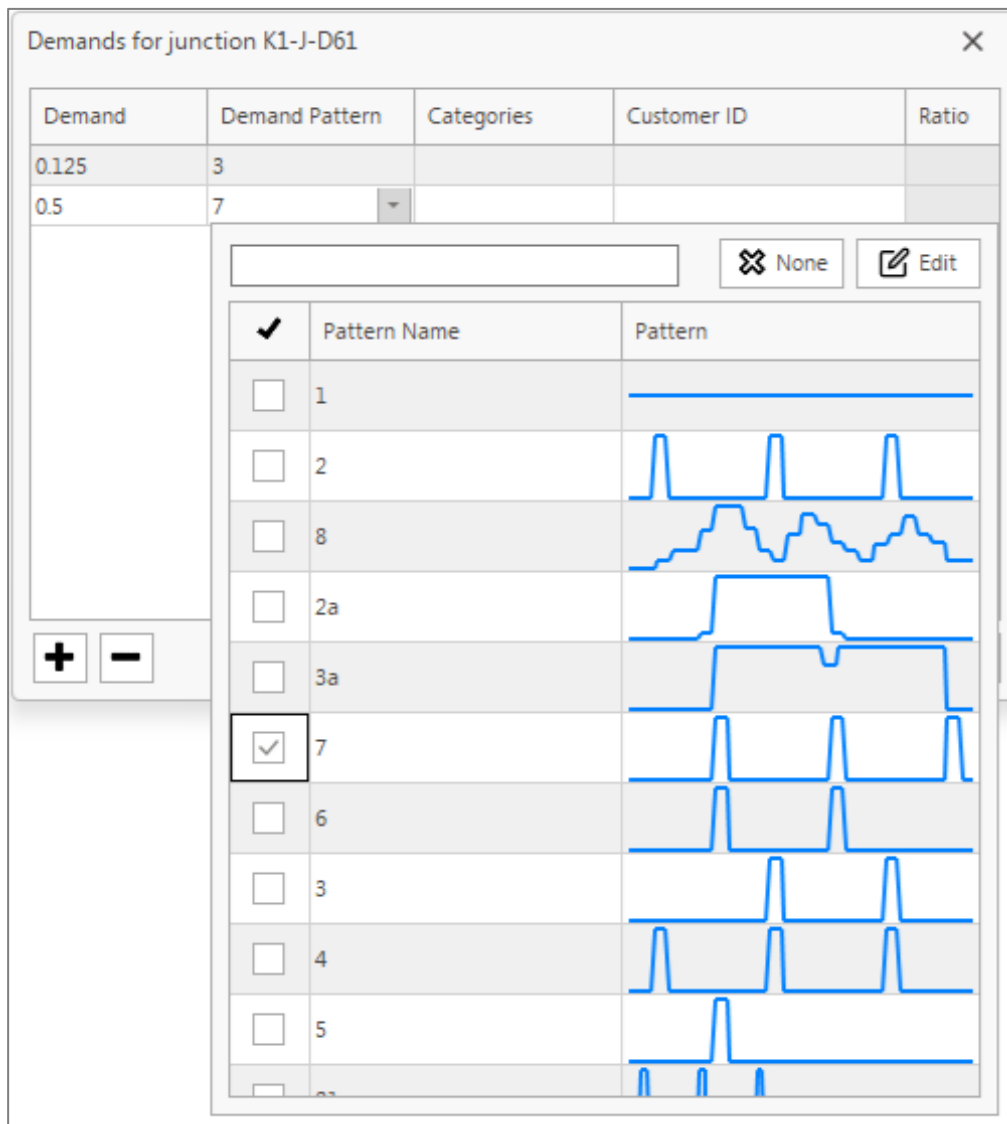

Figure 9-53: Demand Table Editor
The Demand Editor is shown in **Figure 9-53**. It is used to assign base demands and time patterns when there is more than one category of water user at a junction. The editor is invoked from the Property Editor by clicking the ellipsis button (or hitting the *Enter* key) when the Demand Categories field has the focus.
- Demand Pattern: Pattern name (can be selected from drop down list, as show in Figure 9-53). This is used to allow demand to vary with time (optional).